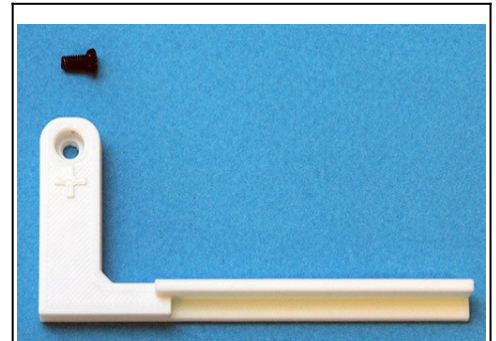

Figure 1: Cap mounting bracket and screw
- With each servo, a lens cap mounting bracket and a machine screw to attach it to the servo shaft (Figure 1). Find the screw in the hole on the end of the shaft.